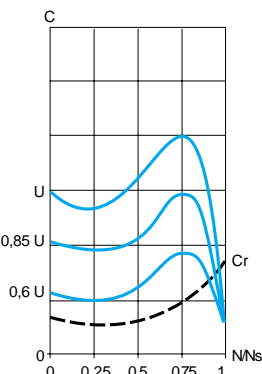

Figure 2
■ Figure 2 shows the torque/speed characteristic of a squirrel cage motor in relation to the supply voltage. The torque varies like the square of the voltage at a fixed frequency. The gradual increase in the voltage prevents the instantaneous current peak on power-up.